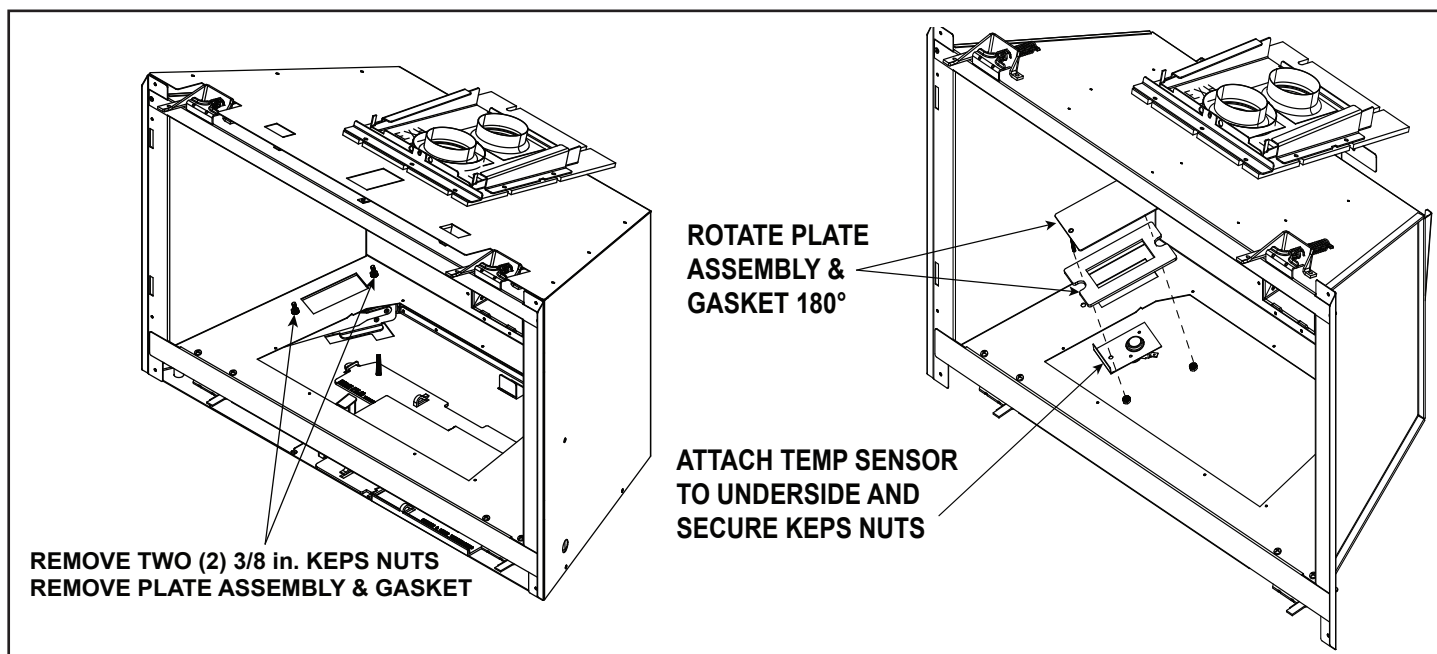

Figure 6.5 Install Temperature Sensor
- Install and wire the fan per instruction shipped with the fan. Figures 6.5 and 6.6 also shows additional details.